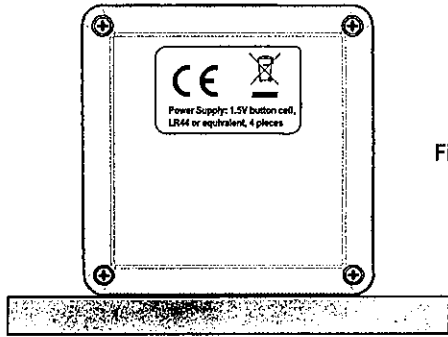

Figure 6
- Wait until the number "1" of the displayed "CA d 1" flashes, then rotate the instrument by 180° along the vertical axis so that the front panel of the instrument faces away from you; the result placement of the instrument is shown in Figure 6. Press the "REL" key once. The display shows "CA d 2".